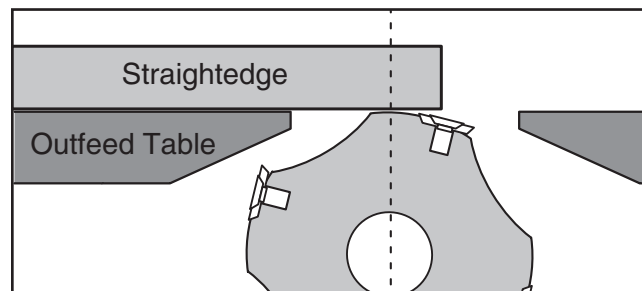

Figure 50. Adjusting outfeed table even with cutterhead body.
4. Place straightedge on outfeed table so it hangs over cutterhead, rotate motor pulley so straightedge is between inserts, then lower outfeed table until straightedge just touches cutterhead body, as shown in **Figure 50**.